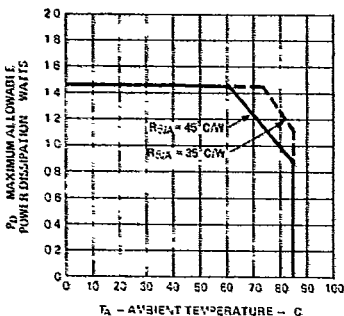

Figure 2. Maximum Allowable Power Dissipation vs. Temperature
- 2 The device should be derated linearly above 60°C at 22.2 mW/°C. This derating is based on a device mounted in a socket having a thermal resistance from case to ambient at 25°C/W per device. See Figure 2 for power deratings based on a lower thermal resistance.
The HDSP-2490/-2491/-2492/-2493 are available in standard ceramic dual-in-line packages. They are designed for plugging into sockets or soldering into PC boards. The packages may be horizontally or vertically stacked for character arrays of any desired size. The HDSP-2490/-2491/-2492/-2493 utilize a high output current IC to provide excellent readability in bright ambient lighting. Full power operation  $V_{CC} = 5.25V$ ,  $V_B = 2.4V$ ,  $V_{COL} = 3.5V$  with worst case thermal resistance from IC junction to ambient of  $45^\circ C/watt/device$  is possible up to ambient temperature of  $60^\circ C$ . For operation above  $60^\circ C$ , the maximum device dissipation should be derated linearly at  $22.2 mW/^\circ C$  see Figure 2. With an improved thermal design, operation at higher ambient temperatures without derating is possible. Please refer to Application Note 1016 for further information.